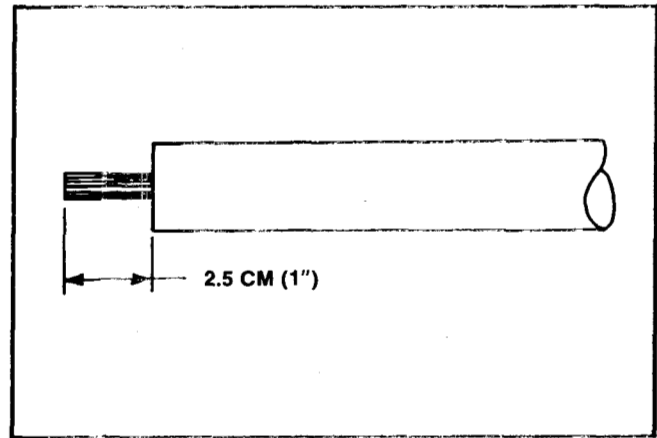

Figure 129
1. Before installing the gearbox make sure that the drive shaft is properly positioned in the drive tube. See Figure 129.